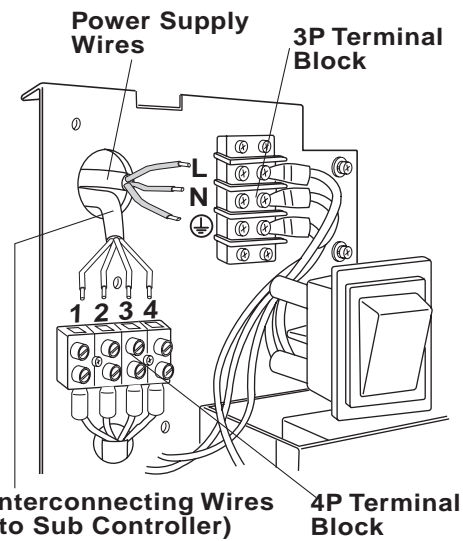

Fig.3-4 Wires Connection in Main Controller
4. Cut the wires to workable length and strip 10mm of insulation for power supply wires and 5mm for interconnecting wires for Sub Controller. Connect power supply wires to 3P terminal block and interconnecting wires to 4P terminal block. (Fig.3-4)